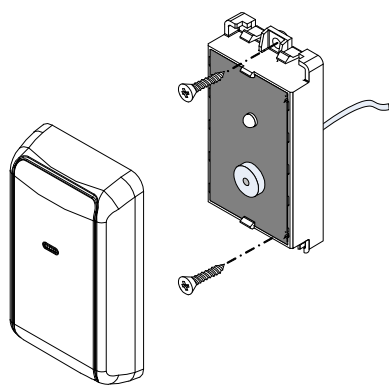

Figure 2
- Secure the reader to the surface using the supplied screws (see Figure 2).